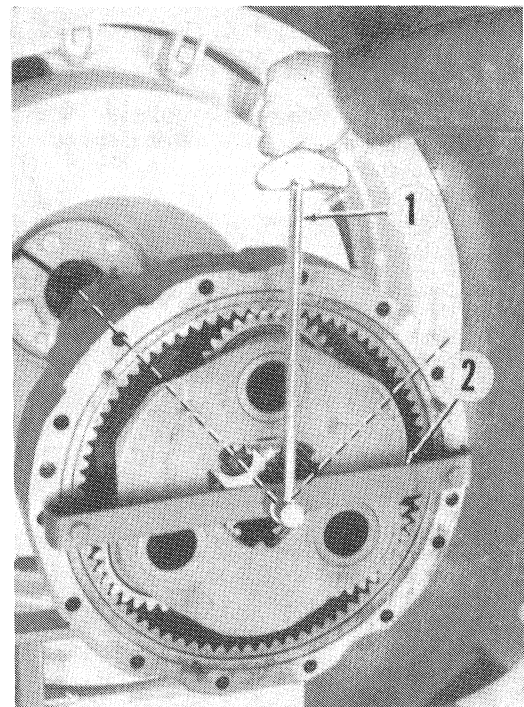

Fig. 195—If axle assembly is not separated from wheel hub, use a torque wrench (1) and adapter tool (2) to check bearing rolling torque.
If axle assembly is removed from wheel hub, use a standard torque wrench on retaining screw (25) to check axle rolling torque. If axle assembly is not separated from wheel hub, fabricate a torque wrench adapter tool (2—Fig. 195) that can be mounted across center of axle housing. Rotate torque wrench 45 degrees from vertical in each direction and record rolling drag torque.